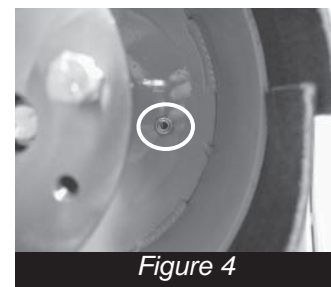

Figure 4
- In the wet grinding stage - water is fed from a standard garden hose into a ball valve cut off, then into a nozzle that sprays over the disc assembly. (Figure 4) Use the ball valve to regulate the flow of water to the disc.